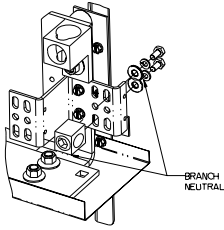

Figure 10
11. Reference fig. 10 - Installing the Branch Neutral Lug assy. (item 23) in a Panelboard. The Branch Neutral is located at the bottom of the "Z-rails", or mirrored at the top depending upon the feed cable location. Two (2) different Neutral Lug assemblies are included in the kit, be sure to install the type pictured below. The Neutral lug assemblies can be mounted, as shown, on either side of the Branch Neutral depending on cable feed location. Torque all hardware as specified on the rear of the deadfront.